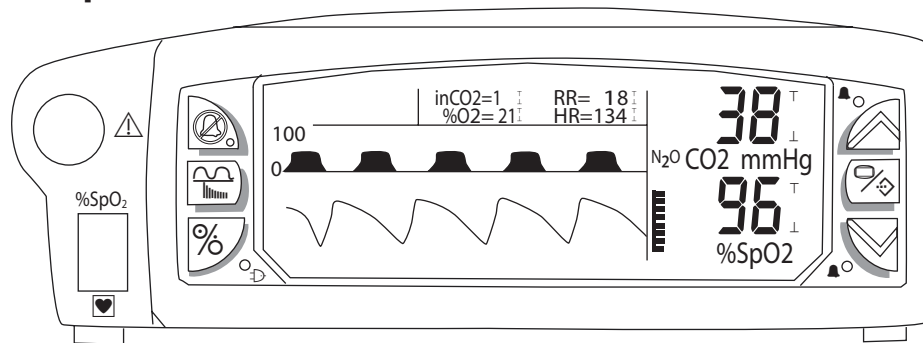
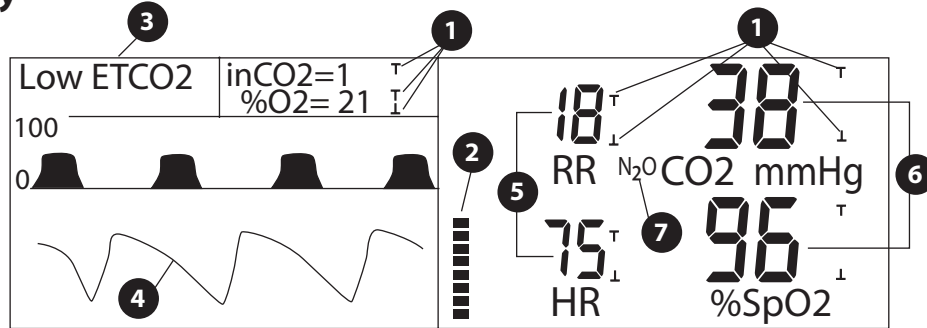

Figure 2.1: Expanded Waveform Mode
Figure 2.3: VFD Display (Normal Mode)
One or two waveforms are displayed here in either expanded wave mode [fig 2.1] or normal mode [fig 2.3]. A trend graph or a menu can be displayed in place of waveforms. Trends and menus always expand this waveform area, relocating the parameters as described below.
Respiration Rate (RR) and Pulse Rate (HR) are shown as medium-size digits in this area in NORMAL display mode. Normal display mode can exist only if an oximeter is installed. In EXPANDED waveform mode, these parameters become small digits and move next to inCO2 and %O2 above the waveform area. [fig. 2.1].